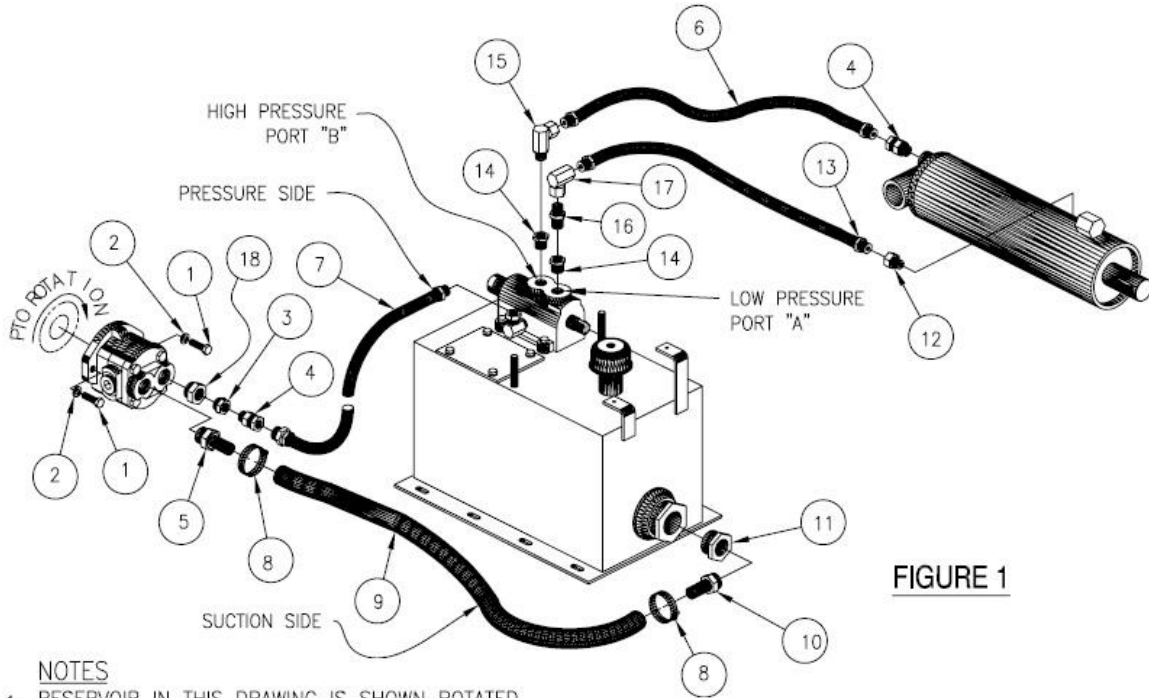
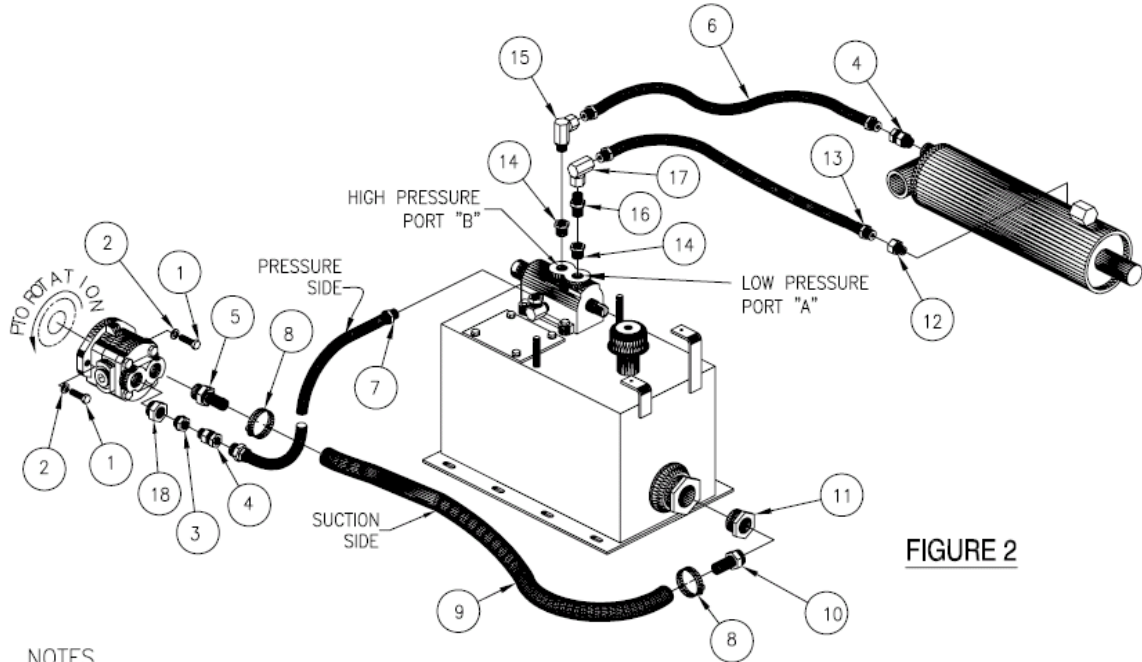

FIGURE 1
FIGURE 2
2. REFER TO FIGURE 2 IF A GP2025 BI-ROTATIONAL PUMP IS BEING INSTALLED WITH A PTO OF COUNTER-CLOCKWISE ROTATION.
2. REFER TO FIGURE 1 IF A GP2025 BI-ROTATIONAL PUMP IS BEING INSTALLED WITH A PTO OF CLOCKWISE ROTATION.
5. Determine if the PTO output collar rotates in a clockwise or counter-clockwise direction. Refer to Figure 1 or Figure 2.
6. Install the hydraulic fittings into the pump ports. Refer to Figure 1 or Figure 2. If it is necessary to move the steel port plugs from the side ports to the rear ports, retighten each steel port lug to 133 ft-lbs.
8. Refer to Figure 1 or Figure 2 to complete the hydraulics installation.